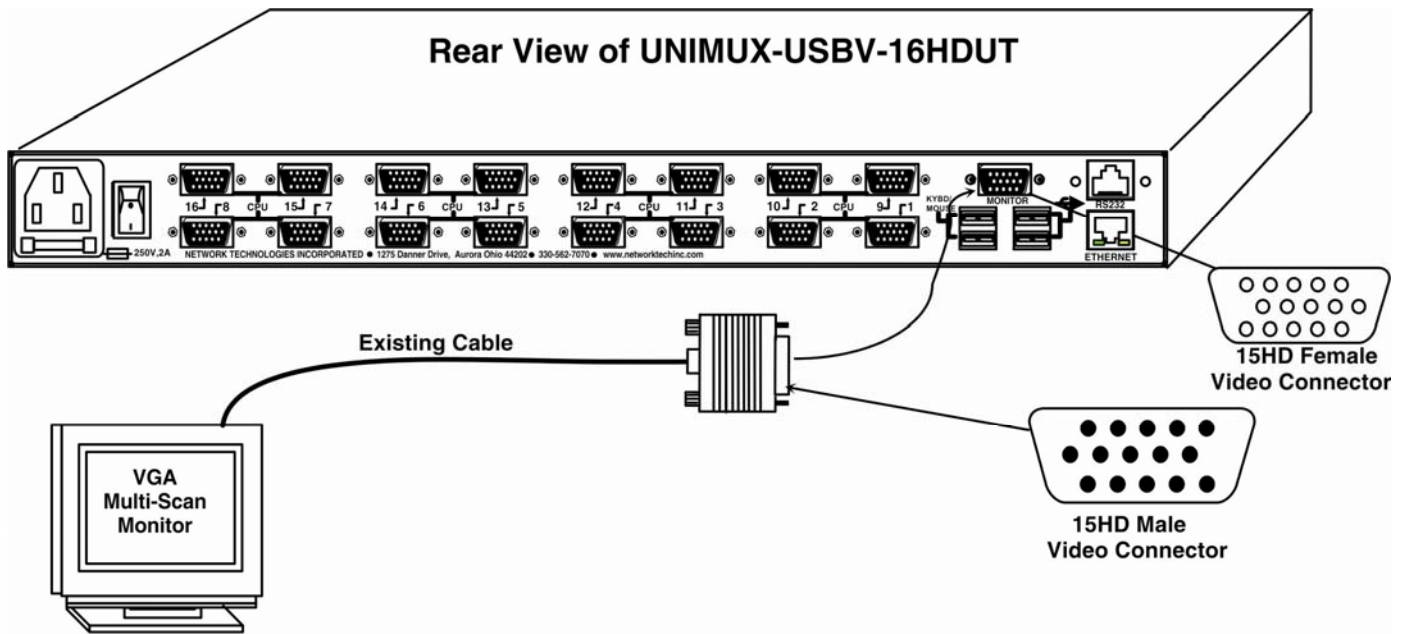
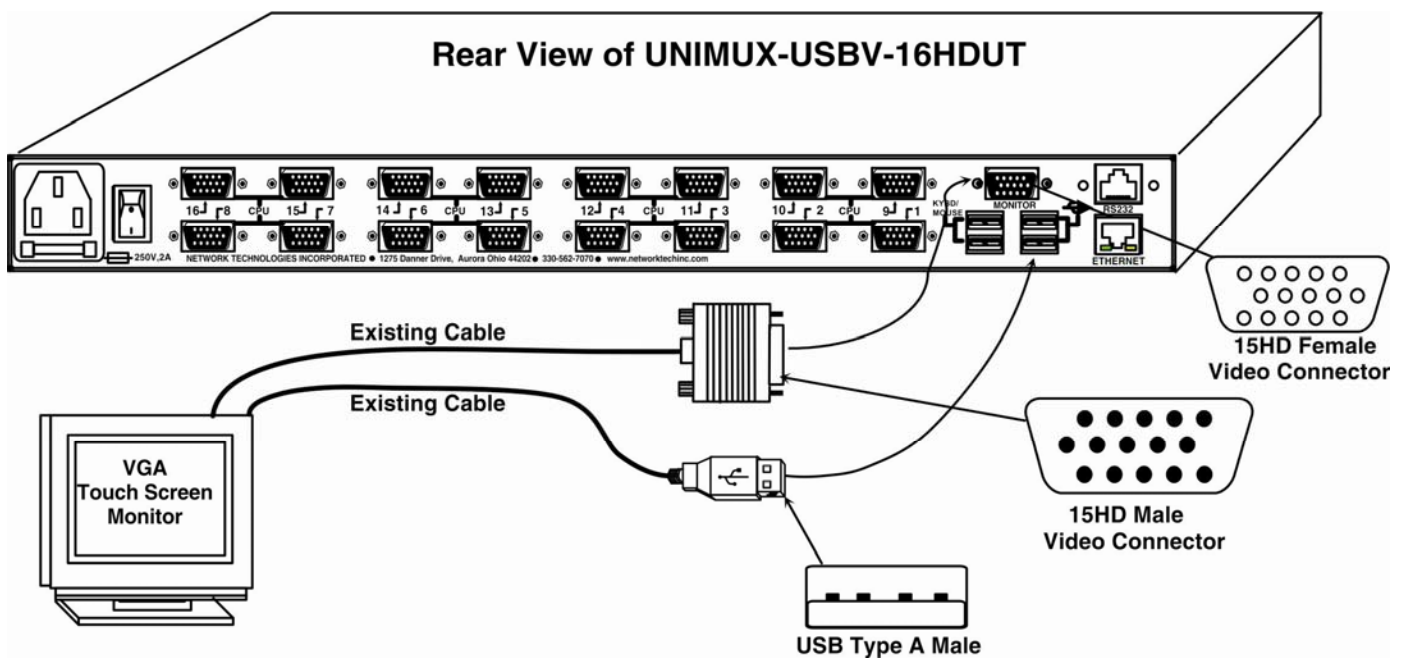

Figure 3- Install user monitor
Figure 4- Install user touch screen monitor
1. Connect the 15HD male cable end from the user monitor to the female black 15HD port marked "MONITOR x" on the rear of the UNIMUX switch (see Figure 3 ). If a touch screen monitor is being connected (models with touch screen support only), connect the USB cable from the monitor to any one of the USB type A connectors in the same user device port group (see Figure 4 ).